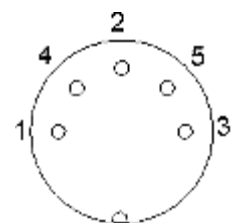

Figure 6
- The speed of rotation can be controlled over the whole range by an external signal (0–1 V) when applied to the contact No.4 of the socket „remote controle“ on the rear of the motor unit (fig. 5 and fig. 6). The 'speed control' switches must be switched to '000'.